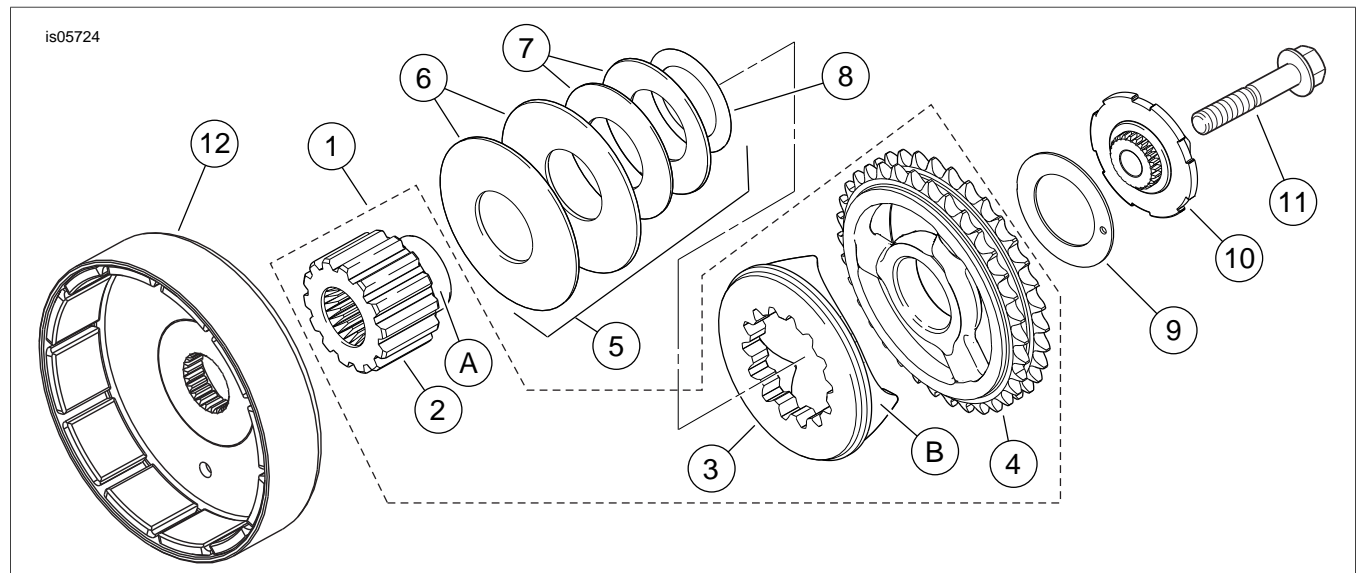

Figure 2. Service Parts, Big Twin Compensator Kit
See Figure 2 and Table 1.
1. See Figure 2. Install the **new** alternator rotor (12) to the engine compensating sprocket shaft per service manual instructions.